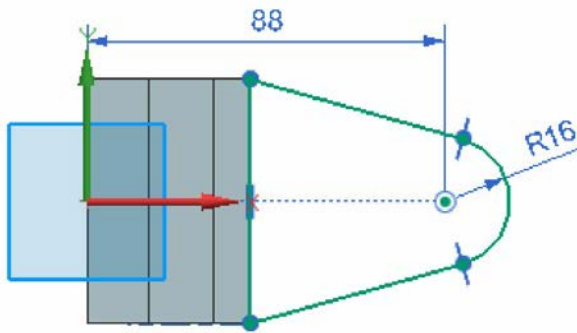

Figure 5-63 Sketch created for the second feature
2. Draw the sketch of the feature and add the required constraints and dimensions to it, as shown in Figure 5-63.